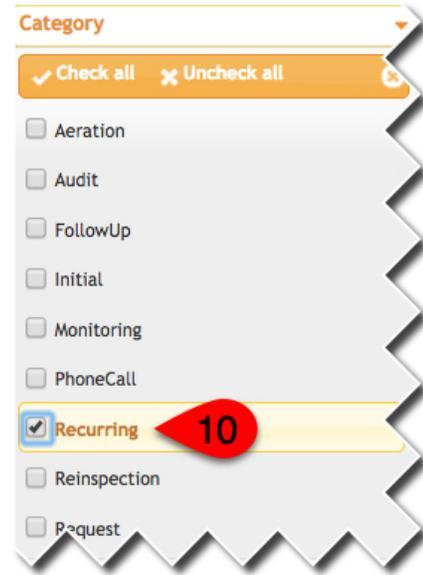

Figure 27
8. Select the route you want to evaluate. They are listed as Service Center number – route number. For example, Route 30 in GreenUP Orange (02) will be listed as 002-30. You may only select one route at a time.
10. Click to checkmark (Fig. 27) each service type that is appropriate for the routes you are evaluating, monitoring for bait monitoring, or the recurring option which will load all recurring services. After the desired services have been selected, click the x or off screen to proceed. Additionally, you may filter for specific event by only selecting the desired events.